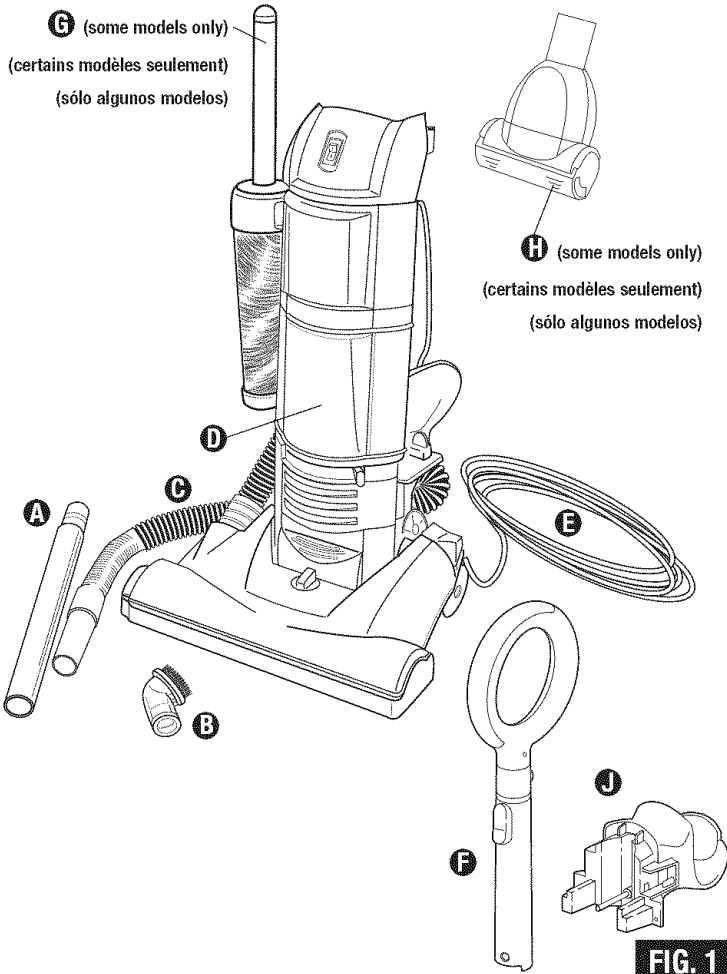

FIG. 1
**PARTS LIST** (FIG. 1)
**NOMENCLATURE** (FIG. 1)
**LISTA DE PARTES** (FIG. 1)